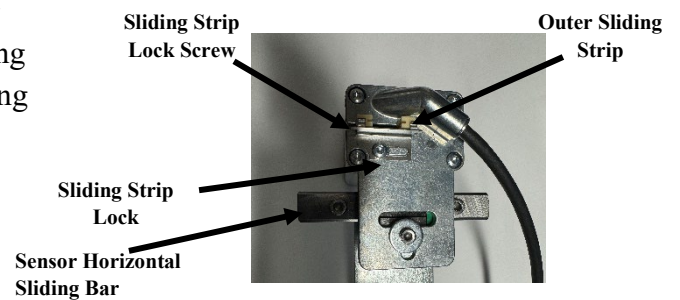

Figure 24: Sliding Strip Lock
17. Remove the outer sliding strip from the sensor by loosening the sliding strip lock screw on the sliding strip lock and either pulling back the lock or sliding it to the side. See Figure 24